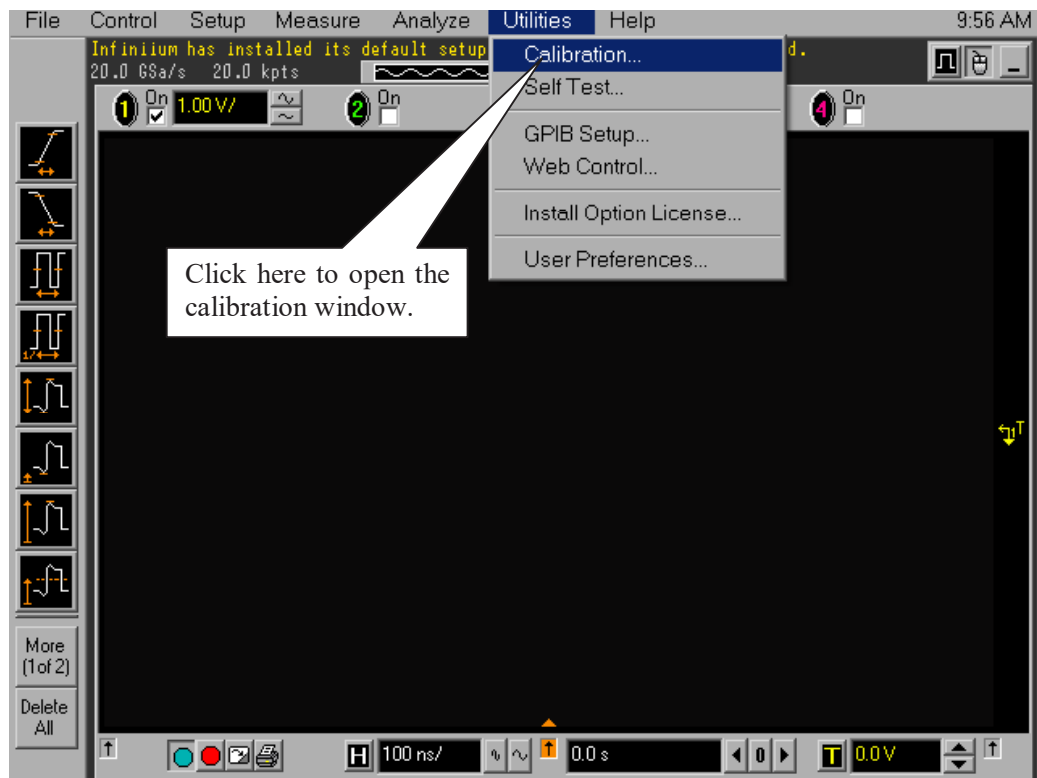

Figure 2 Accessing the Calibration Menu.
- 3 Referring to Figure 2 below, perform the following steps: